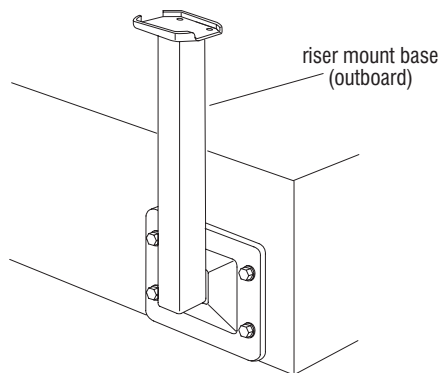

Figure 12
30. To install riser mount bases to riser surface, refer to the space-planning layout for specified mounting locations. Reference "Riser Mount Specifications" details on page 2 for appropriate fasteners and secure riser bases to riser (Figure 12).